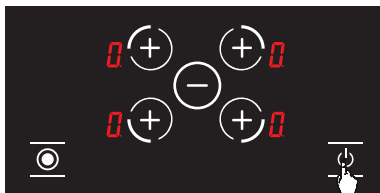

Figure 5
1. Switch on the hob by pressing the button . (See Fig. 5.)